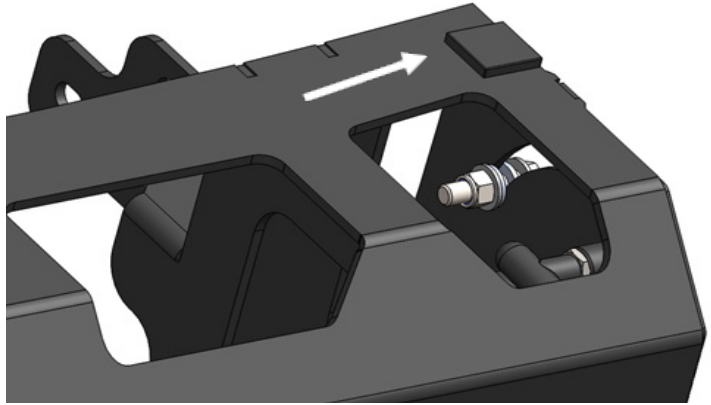

Figure 9
9. Install the provided rubber bump stops underneath the tube assembly stopped plate by removing the adhesive backing and placing it on the winch tray. (Figure 9)